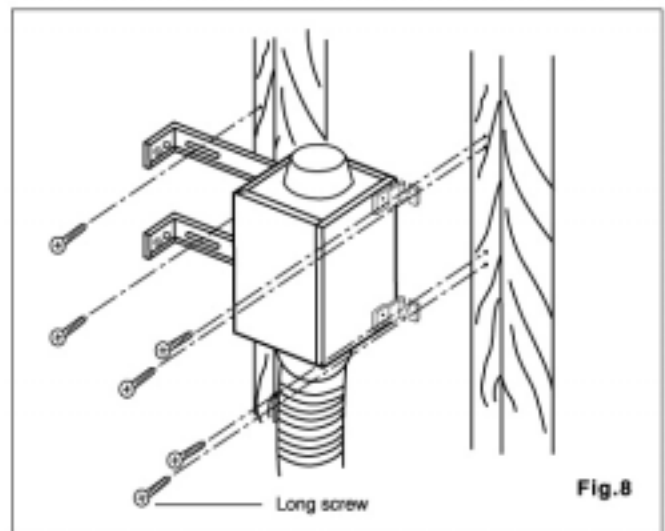

Fig.8
2. Extend installation bracket and hang the unit on the joist or pillar. Fix with the long screws. (Fig.8)